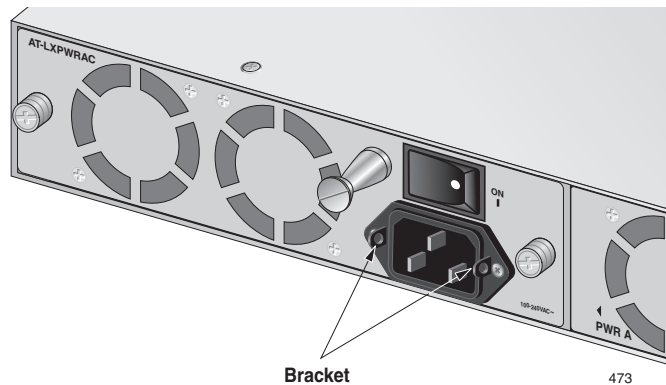

Figure 16. Power Cord Retaining Bracket
2. Locate the retaining bracket on each side of the AC power connector on the back of the chassis, as shown in Figure 16.